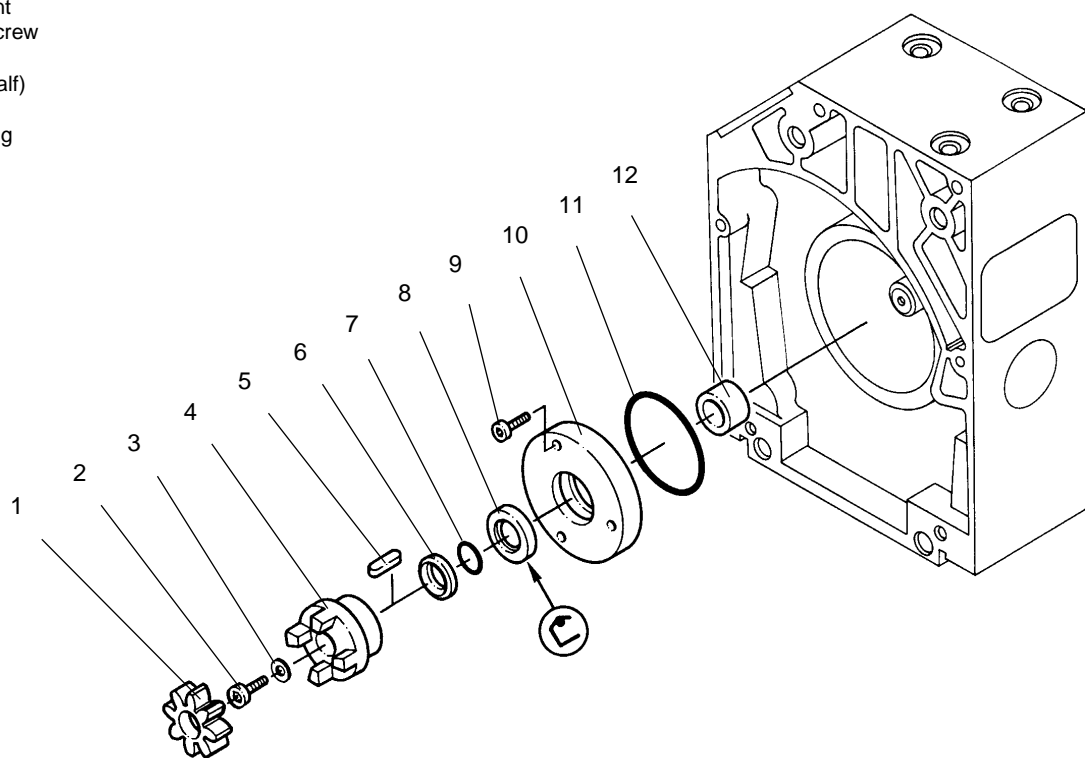

Fig. 12 Exchanging the shaft seal
**Key to Fig. 12**
Using a suitable plastic or aluminium cylinder (shaft seal driver) and a plastic hammer, force the shaft seal (12/8) carefully and without bending it into the centering disk (for position of shaft seal, see Fig. 12).